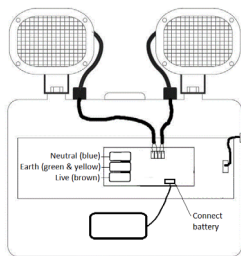

Fig. 2
- Connect the luminaire to the mains supply (via the terminal connector) ensuring the correct polarity is observed (see Fig 2). Live (brown), Neutral (blue) and Earth (green and yellow)
- Connect the battery to the battery connector on the PCB (see Fig. 2)